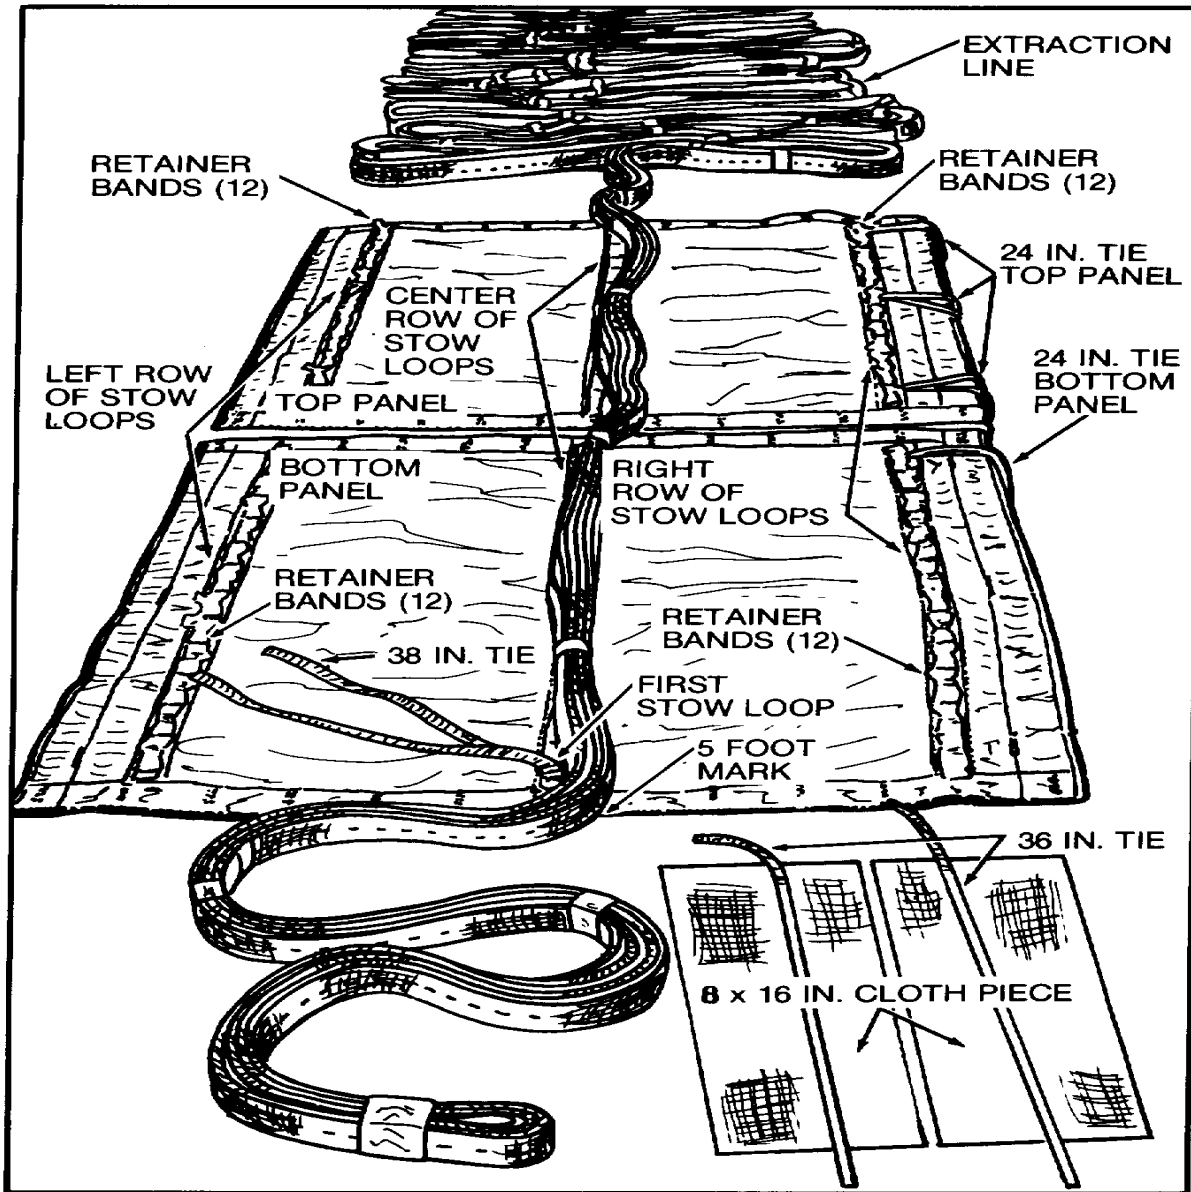

Figure 1. Two Panel Layout for Stowing 140-FT Three Loop Extraction Line.
- a. Position two Extraction Line Panel on pack table or suitable surface with stow loops facing up and running lengthwise (figure 1).